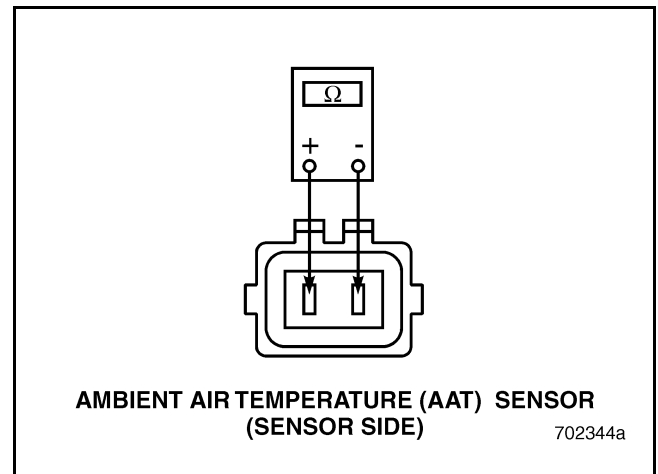

Figure 72
3. Measure the resistance across the pins of the AAT Sensor with the ambient air temperature between 32° and 104°F (0° and 40°C) (see Figure 72).